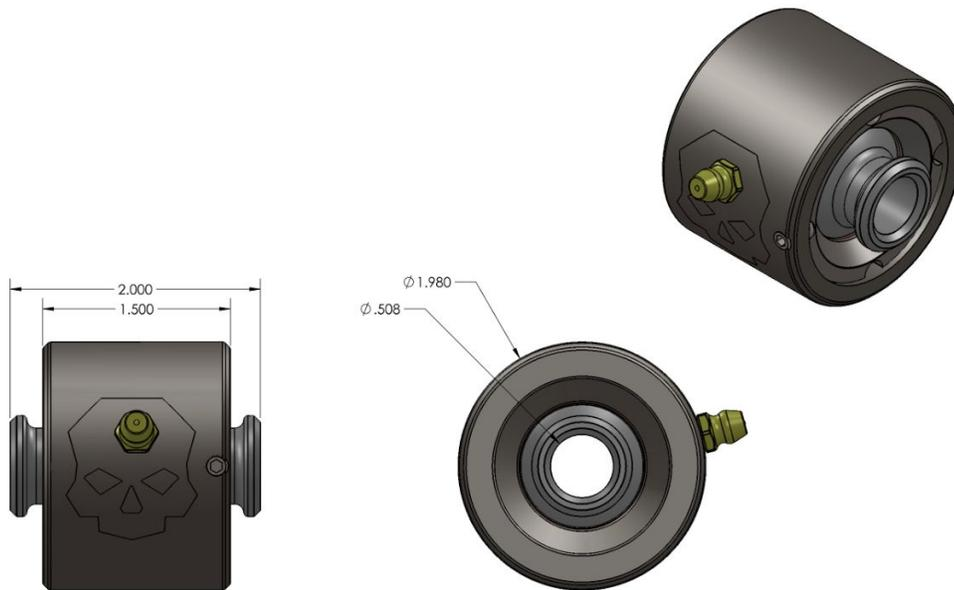

Figure 2.1
- See Figure 2.1 for dimensions.